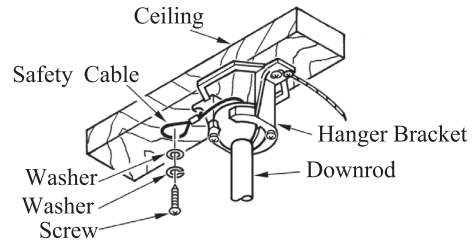

FIG.7
3. Install the safety cable into the building structure.(See fig.7)